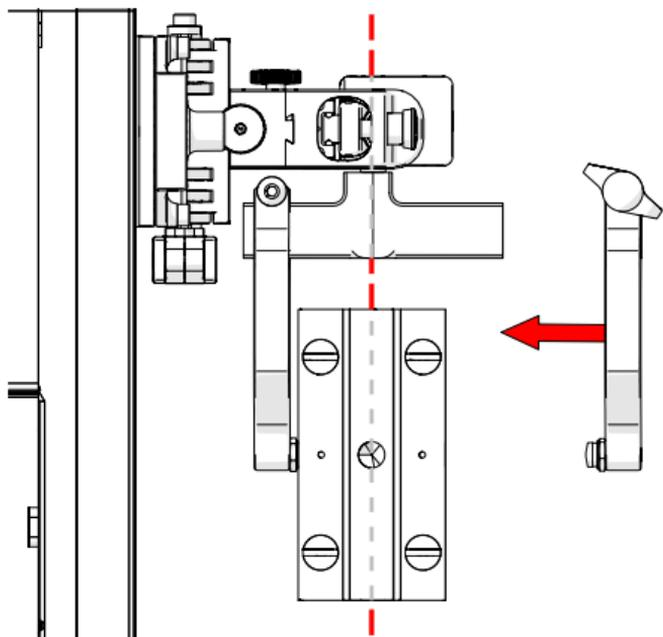

Fig. 117 - Align probe with yoke
6. Align the middle of the wedge with the centre of the yoke (Fig. 117).